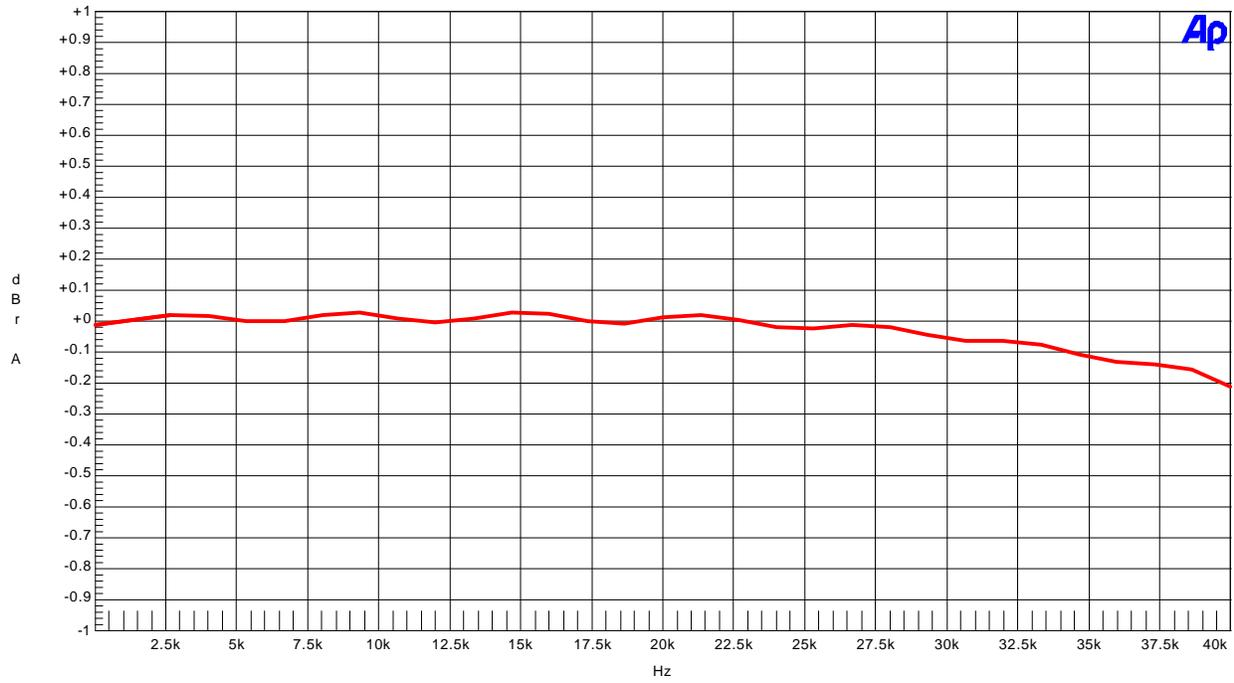

Figure23. Frequency Response (Input level=0dBFS)
- Figure23. Frequency Response (Input level=0dBFS)